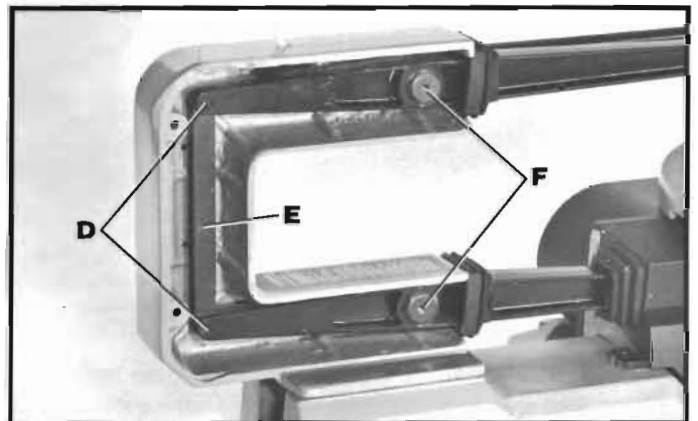

Fig. 32
4. Lubricate the shafts of the two special screws (D) Fig. 32, with a few drops of light machine oil in the areas where they pass through the connecting link (E). **NOTE: DO NOT REMOVE SPECIAL SCREWS TO LUBRICATE.**
5. Remove two pivot bolts (F) Fig. 32.